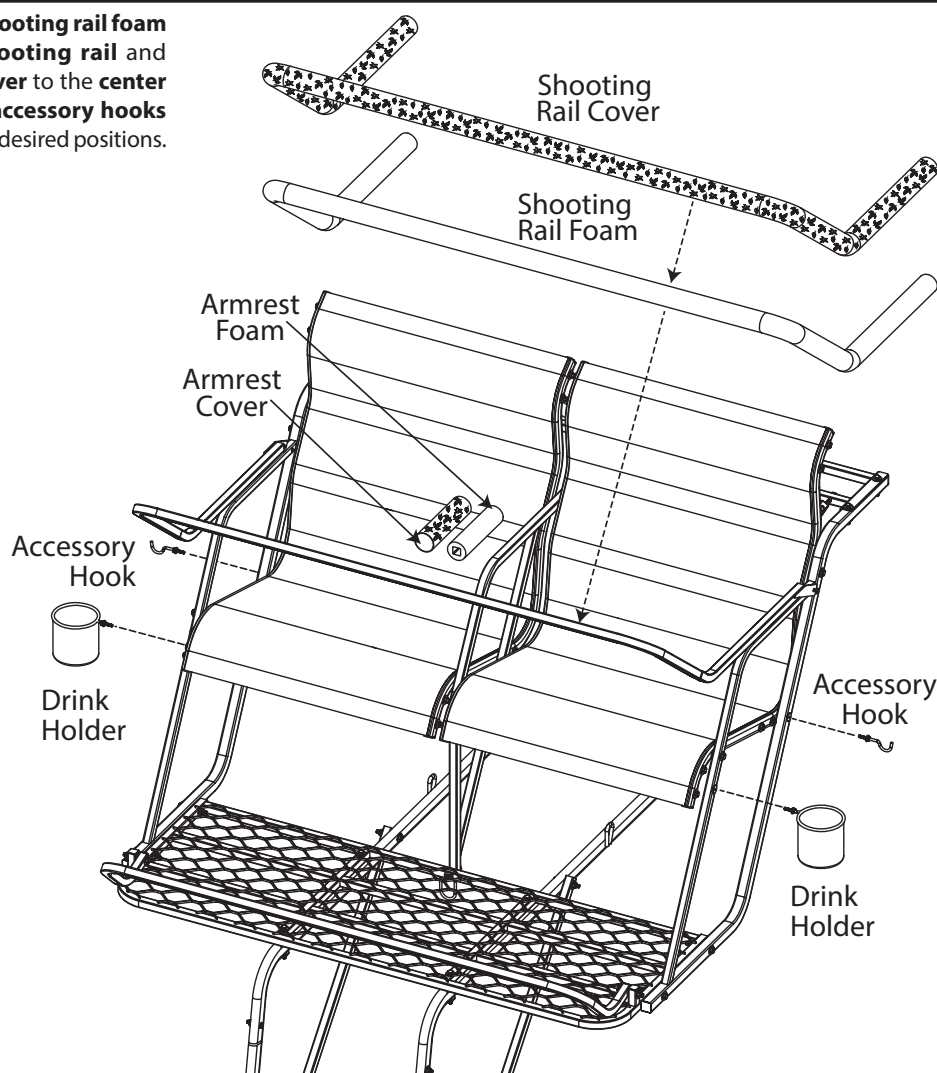

FIG. 11
STEP 5. The adjustable support bar must be attached as outlined in previous step (FIG. 11, pg. 9). **NOTE:** The **support bar** must be attached to receivers on the **support bar ladder section**. Adjust the length so that the tree piece fits snugly to the tree, providing rigid support to the ladder (Fig. 4). Once you have set the **adjustable support bar**, use the **cam buckle strap** to secure it to the tree (Fig. 4A).